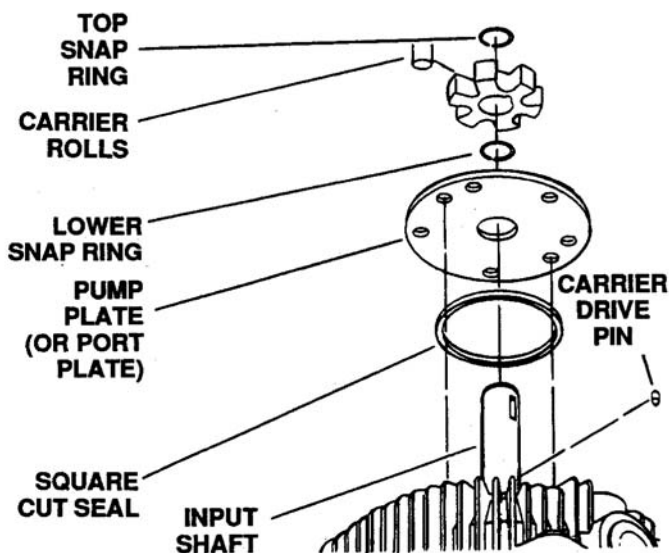

Figure 6-104. Input Shaft Disassembly
- e. Remove the six carrier rolls and top snap ring from the input shaft. See Figure 6-104.
- g. Remove the carrier, carrier drive pin, lower snap ring and pump plate. See Figure 6-104.